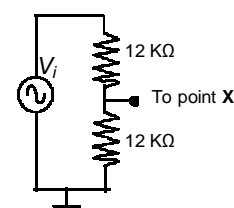

Fig. 2 Voltage Divider
5. Now apply a fraction of the voltage V_i (keeping V_i at 200 mVp-p) to the point 'X' through the potential divider circuit as shown in Fig. 2 and note the values of V_o for
- 5) Now apply a fraction of the voltage V_i (keeping V_i at 200 mVp-p) to the point 'X' through the potential divider circuit as shown in Fig. 2 and note the values of V_o for